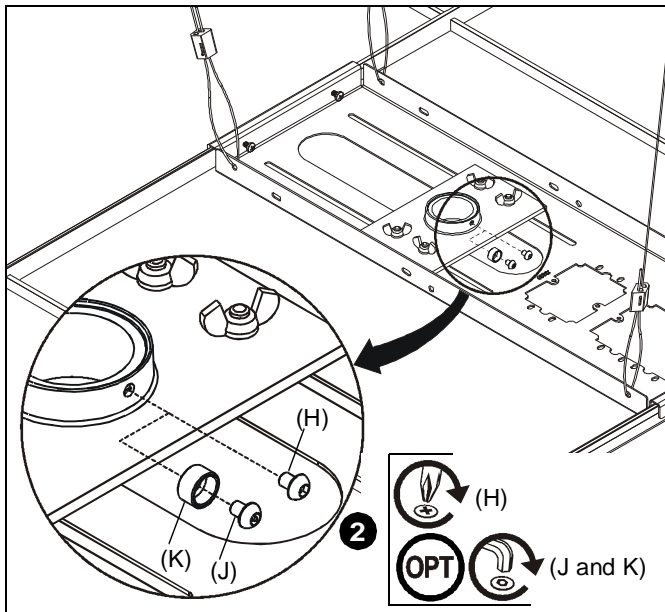

Figure 10
2. Secure extension column by *one* of the following methods (See Figure 10):
- Install one 10-24 x 1/4" Phillips pan head screw (H) into extension column support, tightening firmly against column.
- **OPTIONAL:** Install one 10-24 x 1/4" button head security screw (J) through locking collar (K) into extension column support, tightening firmly against column.
**NOTE:** Locking collar (K) is designed to spin, even when screw (J) is tight.